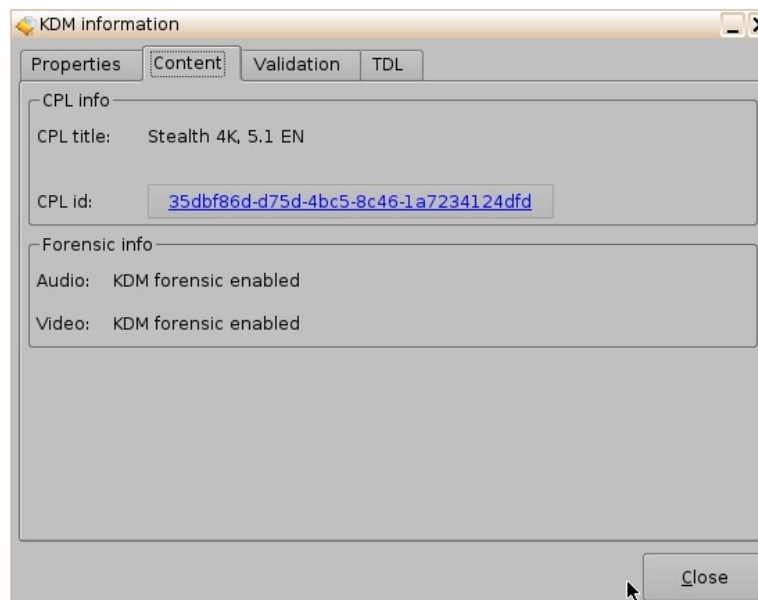

Figure 73: KDM Information – Content Tab
- The Content tab contains the following information about the related CPL (Figure 73):